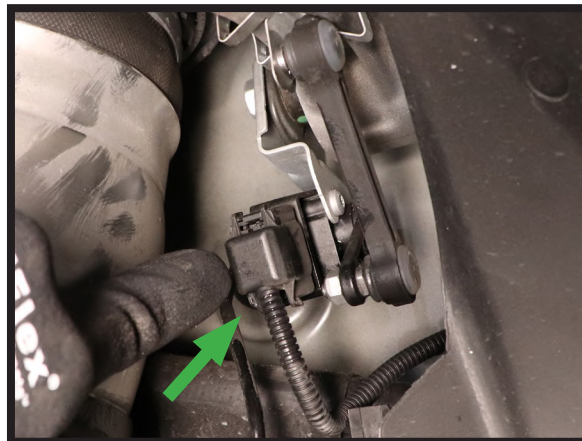

FIGURE 32
7. RECONNECT THE RIDE HEIGHT SENSOR ELECTRICAL CONNECTION. (FIGURE 32)